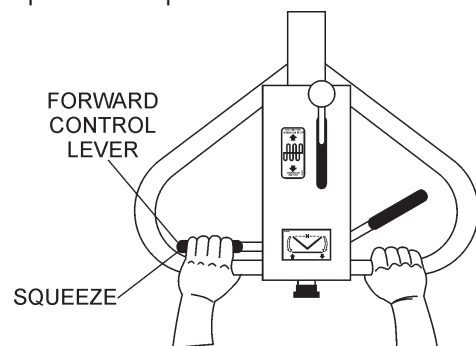

Figure 28. Forward Control Lever
1. Squeezing the **left** control lever (Figure 28) will cause the roller to move in a **forward direction**. Squeezing the lever all the way towards the operator will achieve maximum speed. Use a smooth squeezing action on the drive control lever to prevent abrupt takeoffs.